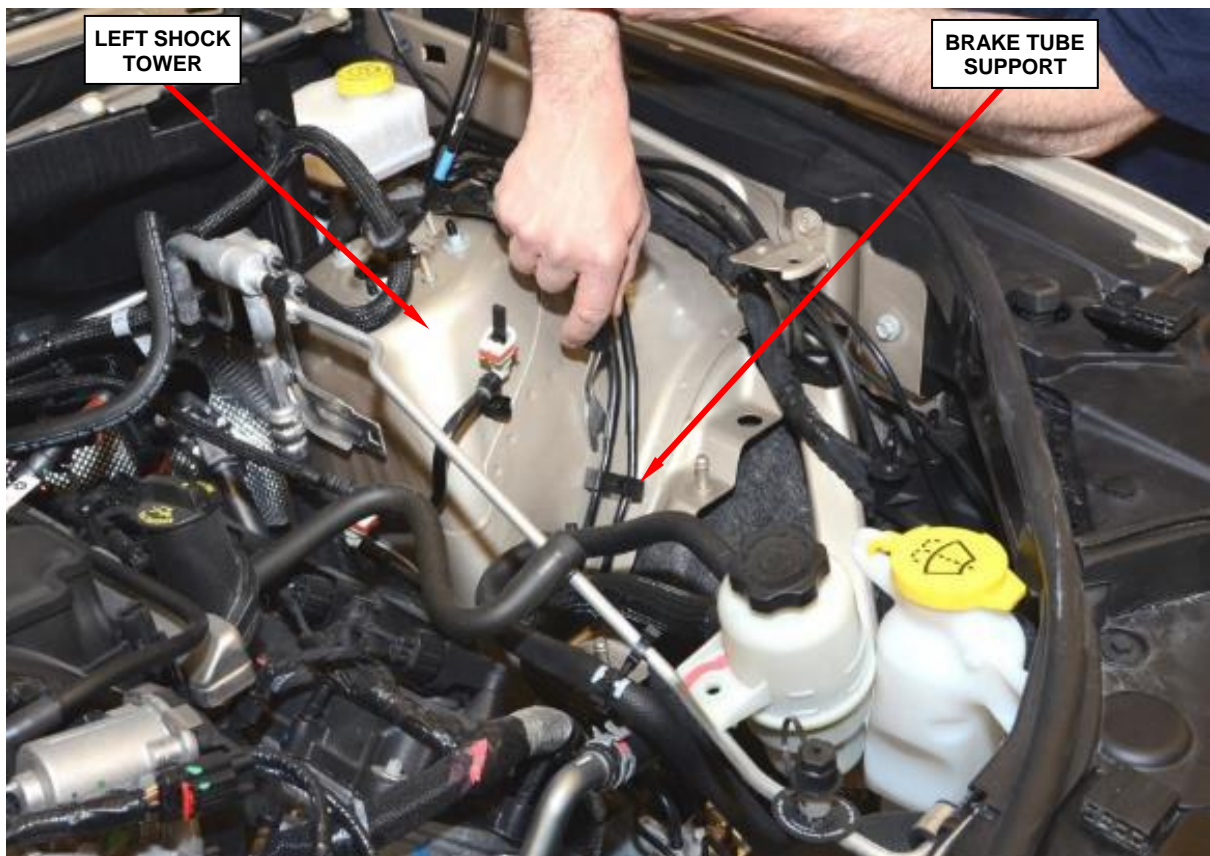

Figure 19 – Brake Tube Support
12. Unclip the brake tube support on the left shock tower (Figure 19).
23. Clip the brake tube support to the left shock tower (Figure 19).
31. Connect the brake tube support to the left shock tower (Figure 19).